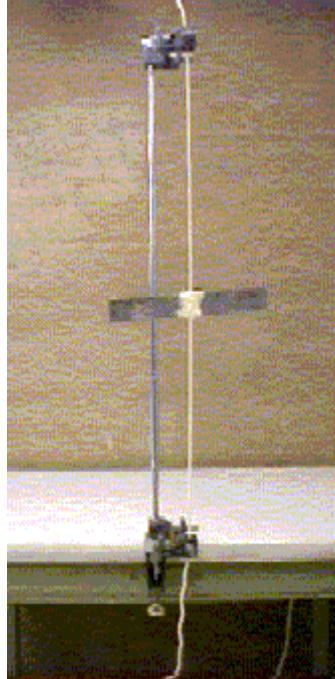

Figure 2
- (Torsionwire model, see Figure2).
- When the students have not seen a torsionwire system before, such a system is shortly explained to them using a large scale model (a piece of rope, having a rectangular sheet of metal and a small coil, taped to it. See Figure 2.)